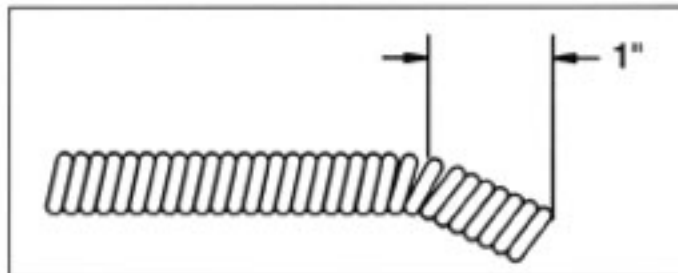

Figure 2
1. Use a vise or pair of pliers to make a bend in the tail end of the cable. This bend should be approximately 30 degrees, and located about 1" from the tail end of the cable, (see Fig. 2).